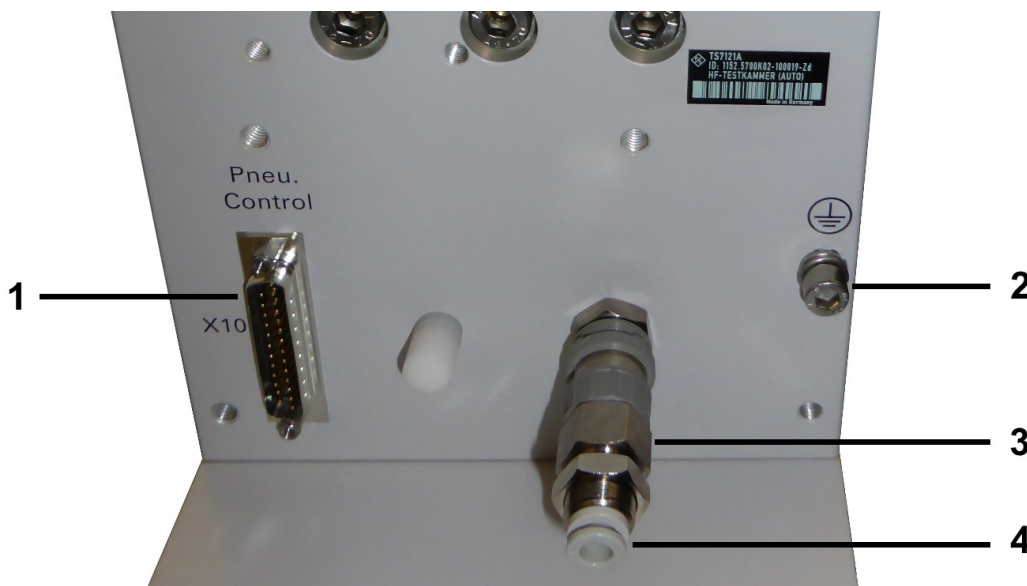
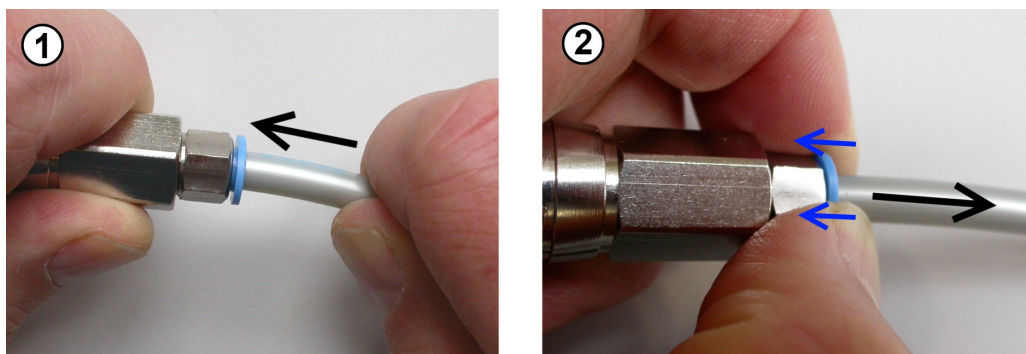

Figure 5-1: Lower rear panel of the R&S TS7121A
Figure 5-2: Assembly and disassembly of the air pressure connector (left in both pictures) and a 6 mm tube (right in both pictures)
On the rear side (also shown in Figure 5-1), the Shielded RF Test Box has components for the installation, including a grounding contact (GND). The automatic version Shielded RF Test BoxA also has an air pressure connector (8) and a 25-pin D-Sub connector (7). This connector is used for controlling the automatic opening/closing, reading out the current state and input for the 24V DC power supply.
1. Ground the chamber using the electrical grounding connection on the rear side (2 in Figure 5-1).
3. Insert the 6 mm tube of the compressed air supply into the chamber's air pressure connector (3 in Figure 5-1), as shown in the left-hand side (1) of Figure 5-2.
2. Push the gray plastic ring (4 in Figure 5-1) at the end of the connector towards the chamber, away from the tube, as shown in the right-hand side (2) of Figure 5-2. (That figure shows a similar connector with a blue instead of a gray ring.)